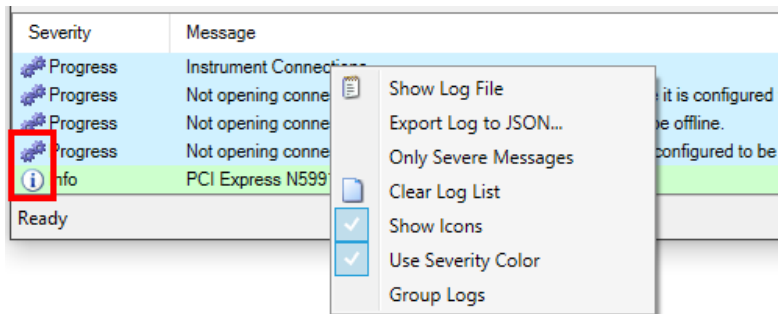

Figure 21 Customizing the log list
The **log list** pane at the bottom of the window shows calibration and test status messages (regular progress updates as well as warnings and error messages). Right-clicking the log list pane opens a context menu (Figure 21).
- If 'Show Icons' is ticked, icons appear at the left of the log list depending on the function of each message (examples in the red frame in Figure 21).